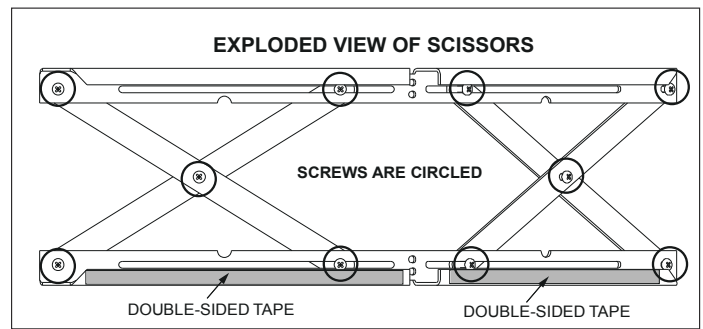

Figure 20.1
1. The 10 screws on each set of scissors will already be loose when shipped. **Figure 20.1.**